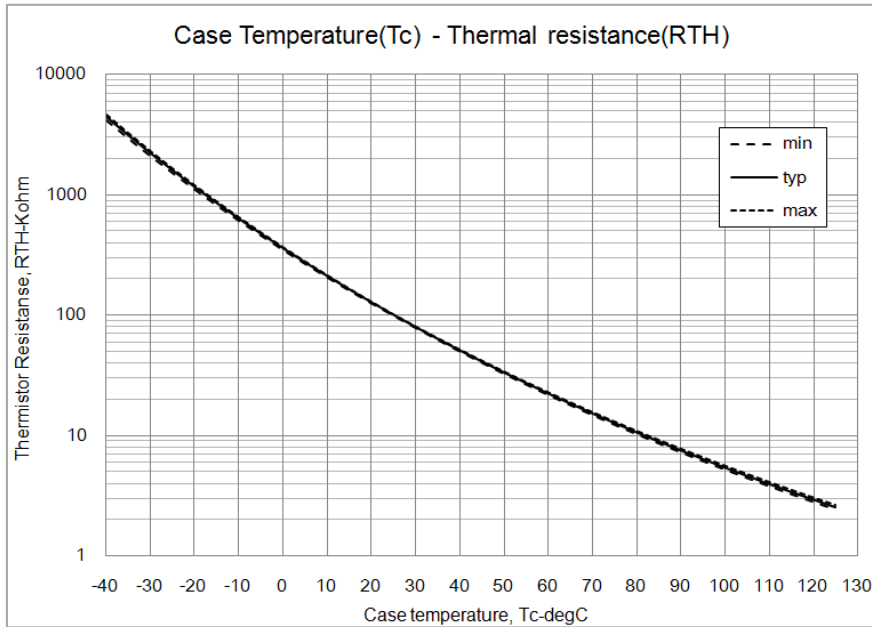
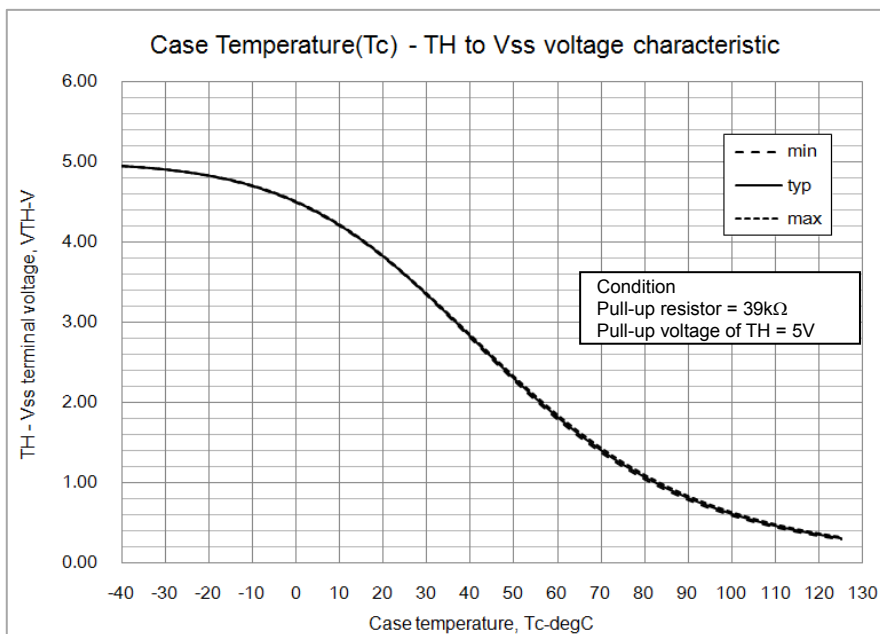

Fig.10
Fig.11
3. “FAULT” (Pin 9) is open Drain (Active Low). This terminal serves as the shut down function of the built-in pre-driver. (When the terminal voltage is above 3V, normalcy works, and it is shut down when it is equal to or less than 0.8V.) Please make pulling up outside so that “FLTEN” terminal voltages become more than 3V. When the pull up voltage (VP) is at 5V, pull up resistor (RP) recommended more than 6.8k Ω , and in case of VP=15V, RP recommended more than 20k Ω .
4. Inside the IPM, a thermistor used as the temperature monitor for internal substrate is connected between VSS terminal and TH terminal, therefore, an external pull up resistor connected between the TH terminal and an external power supply should be used. The temperature monitor example application is as follows, please refer the Fig.10, and Fig.11 below.